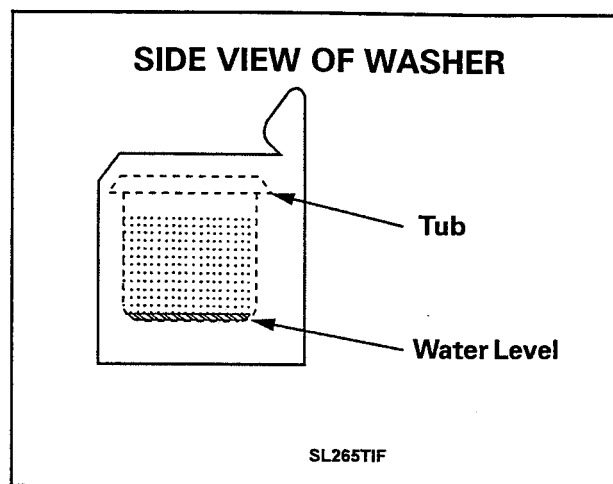

Figure 1-9
16. If the water is not level with the bottom row of holes all around the basket (*Figure 1-9*), readjust the leveling feet as required to level. Remove the water by selecting a spin cycle.